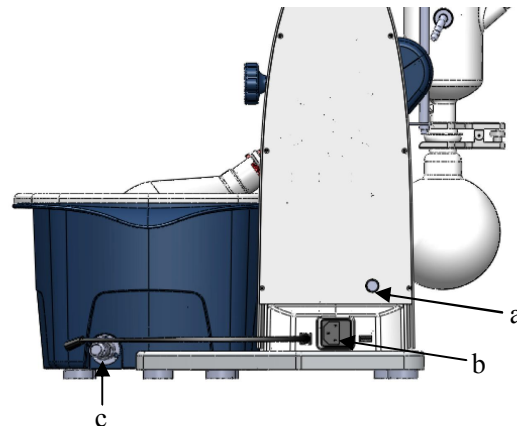

Figure 7
**CAUTION!** Loosen transportation lock (Figure 7).